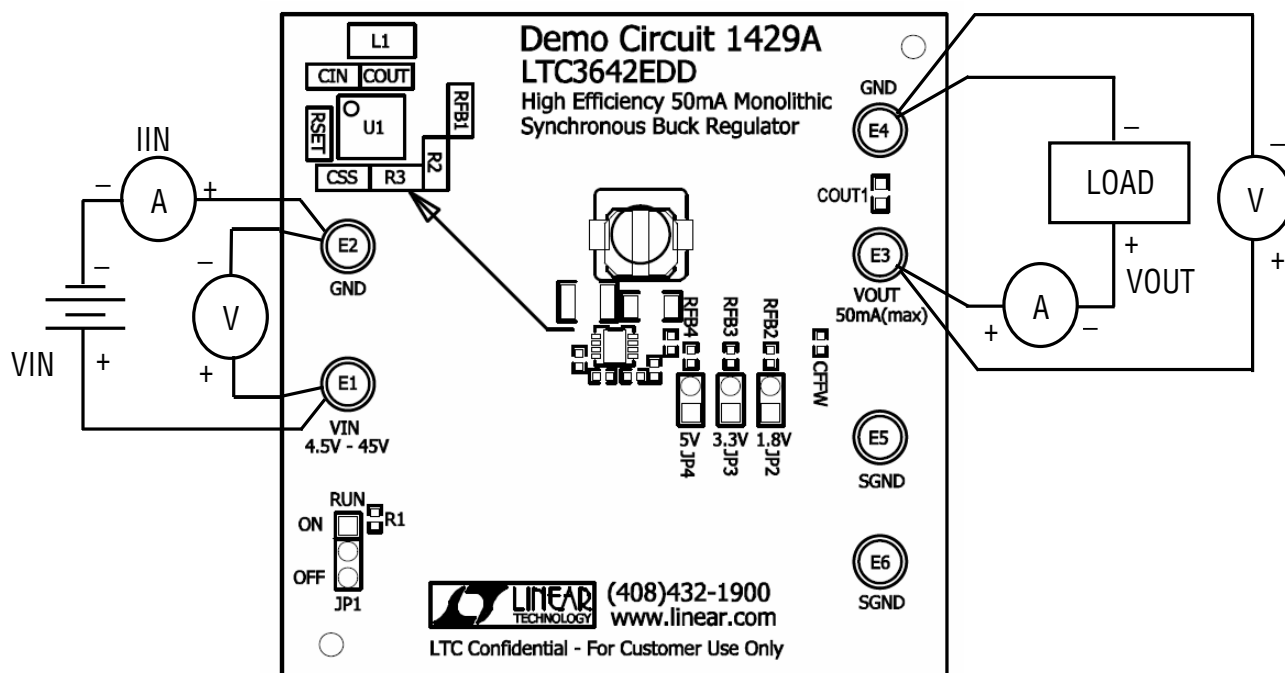

Figure 2. Equipment setup to test LTC3642
The DC1429A is easy to set up to evaluate the performance of the LTC3642. For a proper measurement equipment configuration, set up the circuit according to the diagram in Figure 2.
1. Connect the input power supply to the V_{IN} and GND terminals. Connect the load between the V_{OUT} and GND terminals. Refer to Figure 2 for the proper measurement equipment setup.